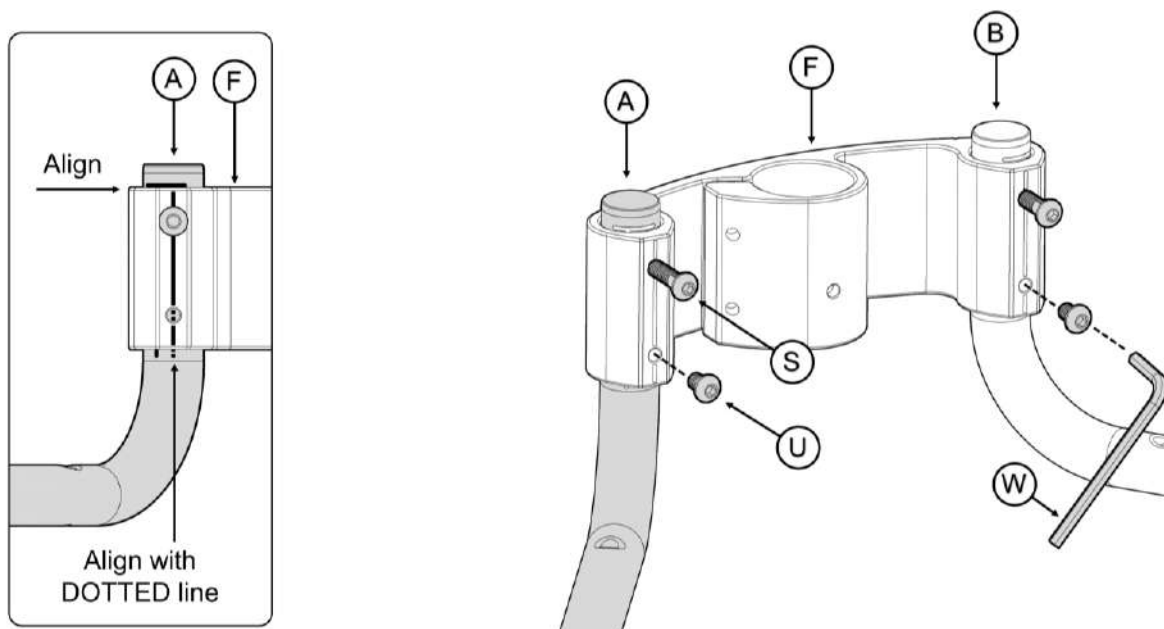

FIGURE 4
4. Align top edge of **F** with horizontal line on leg **A**. Align holes on **F** with DOTTED line on **A**. Screw in **S** and tighten firmly with tool **W**. Insert **U** into lower hole and tighten firmly. Repeat for leg **B**. Legs should be at an angle to one another when assembled. **FIGURE 4**